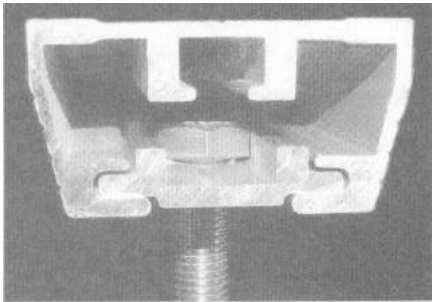

Figure 2
2. Place 8mm bolt into the slide plate. Slide the plate and bolt into the mounting extrusion. See Figure 2.